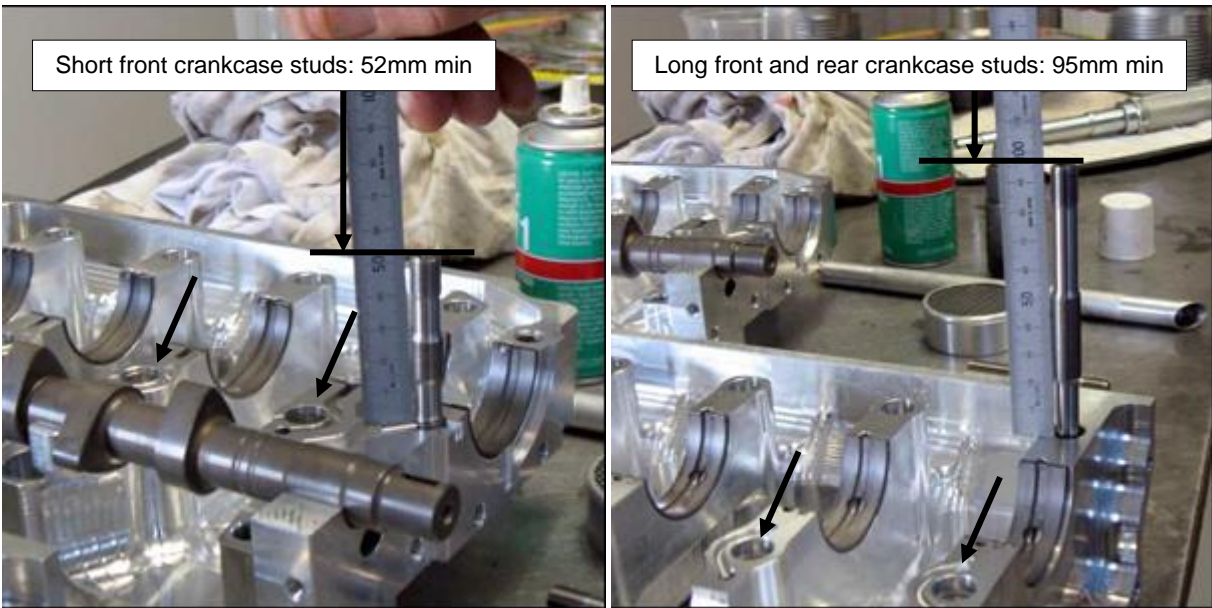

Figure 120 – Crankcase Assembly Preparation
- Lubricate and fit the O rings to the bottom main bearing stud holes (arrowed in Figure 120 - left) and then fit the front and rear crankcase studs using Loctite 620 Retainer: clean and prime the threads first using Loctite 7471 cure accelerator. Use a collet type stud tool to screw the 2 short front crankcase studs to a free length of 52mm and the 2 long front and the 2 rear crankcase studs to a free length of 95mm as shown in Figure 120. Note: Later longer studs are positioned 54mm and 97mm free length above the crankcase join.